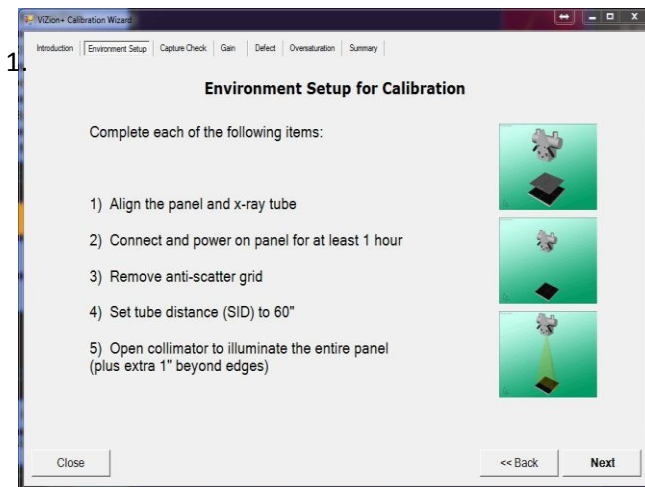

Figure 10
9. **Environment Setup tab:** Complete each item using no grid, grid-cap, table-top, or bucky between the generator and the flat panel detector, select **Next** **Figure 10**